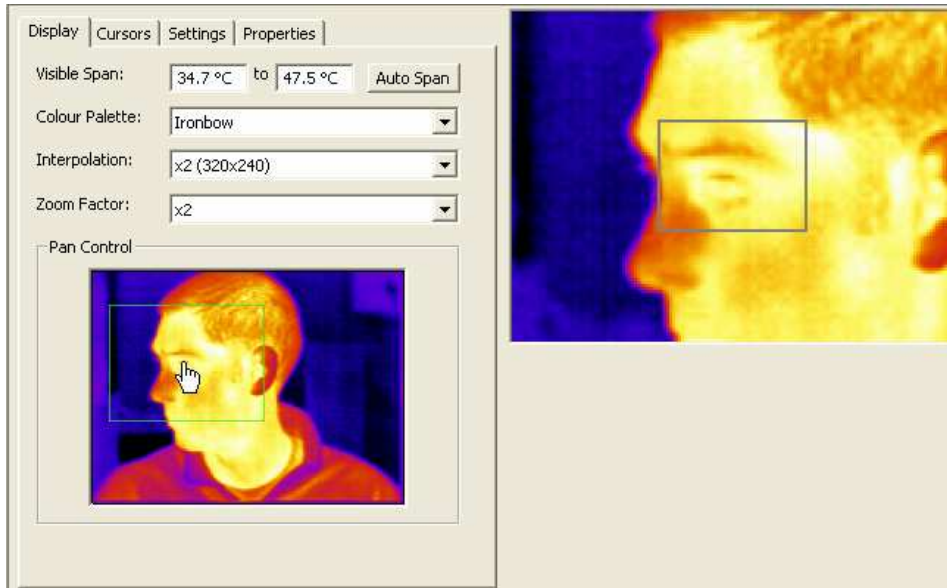
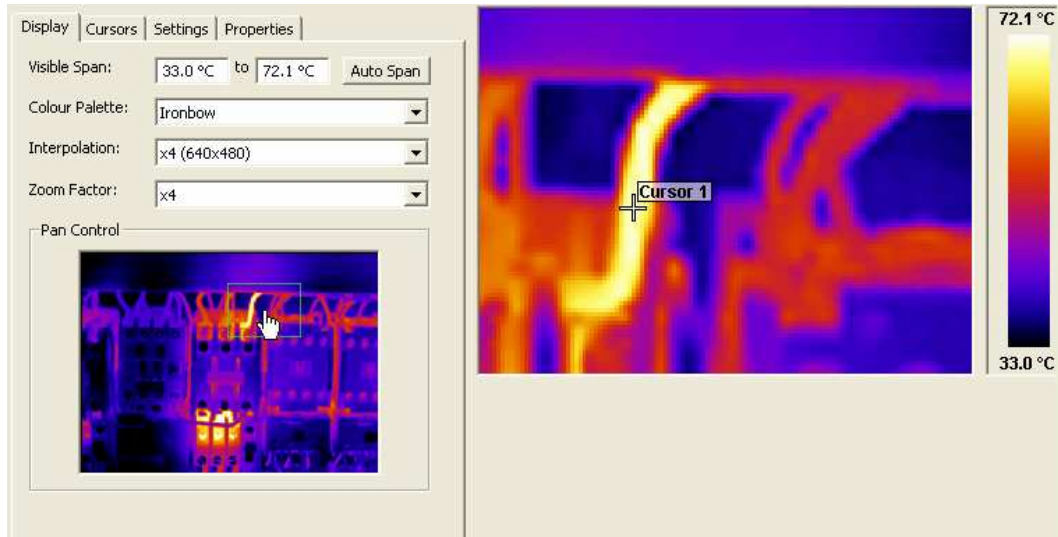

Figure 36: Area Select
Figure 40: Display Tab
- 6)  Area Select – This toggles a rectangular area over the centre of the image. The maximum, minimum and average temperatures for this area are then displayed in the measurement cursors list, allowing measurement by area analysis. The area’s position can be moved in conjunction with the zoom & pan control (see Figure 36). For more information on the zoom & pan control see Figure 40.